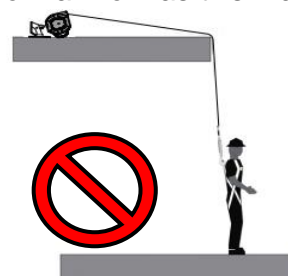

Fig. 6
- Do not allow the lifeline to drape over an edge during normal work as this may abrade, damage, or otherwise compromise the lifeline (see Fig. 6).